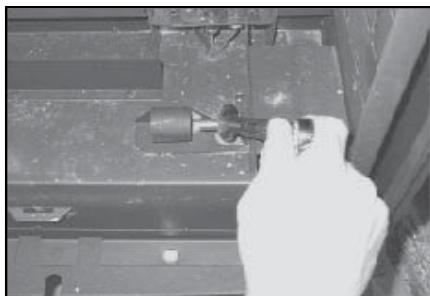

Figure 6.6 Remove main burner orifice using a 5/8 in. wrench. Replace orifice with the proper size as indicated on for your gas type and venting.
Figure 6.6 Turn control knob to the OFF position, ensure that gas supply to the valve has been turned off. Using a Torx TH20, or slotted screwdriver, remove the three pressure regulator mounting screws (1), pressure regulator tower (2), and diaphragm (3).